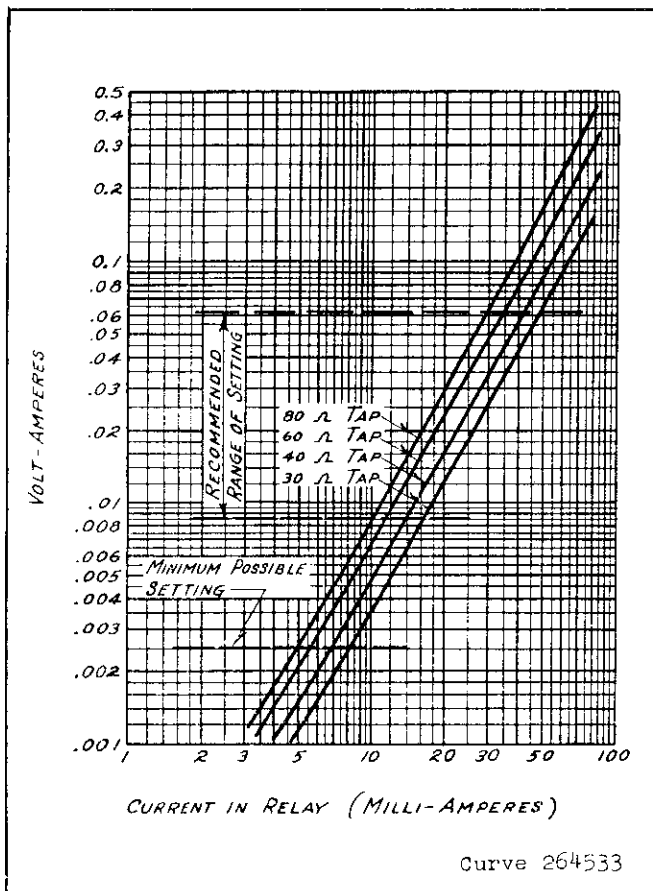
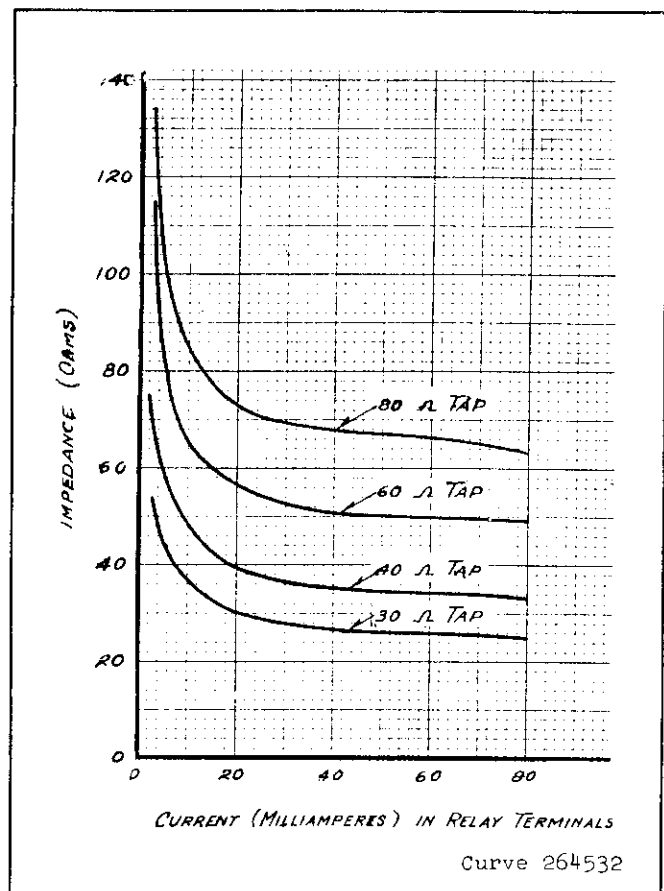

Fig. 2. Typical Voltampere Curve of the Type LC-2 Relay.
Fig. 3. Typical Impedance Curve of the Type LC-2 Relay.
The type LC-2 relay may be set to operate at an energy level ranging from .062 to .0085 volt-amperes. It may also be used to an energy level as low as .0025 with limitations which will be discussed. This range of application is shown on the typical volt-ampere curves of Fig. 2. Typical impedance curves are shown in Fig. 3. The phase angle of the relay is substantially constant (within  $3^\circ$ ) at  $22^\circ$ .
Equation (3) is used to determine the current at which the relay trips for an internal fault on the bus of magnitude,  $I_p$ . Equation (4) is used to determine the primary current necessary to trip the relay when it has been adjusted to trip at a known value of relay current. It should be noted, however, that the relay impedance is not constant, but varies with relay current as indicated in Fig. 3. Therefore, in using equation (3), it is desirable to assume a value of relay impedance equal to the impedance tap, and make a first calculation of the relay current. When this is obtained, a new value of relay impedance should be selected from Fig. 3, and a second value of relay current calculated. Usually, it will not be necessary to continue the calculation any further, as the values resulting from the second calculation will be sufficiently accurate.
This is within the recommended setting range of the relay as indicated in Fig. 2.
From Fig. 3, on the 60 ohm tap, at  $I_r = .0221$ ,  $Z_r = 55.5/22^\circ = 51.5 + j20.8$ .
There is a small residual magnetism effect in this relay element amounting to approximately .001 ampere on the 80 ohm tap. For this reason it is desirable to calibrate the relay after first applying a polarizing current to it. For example, the relay would be adjusted to trip at .010 ampere on the 80 ohm tap, and would then be momentarily subjected to a current of .250 ampere, which is 25 times minimum pickup. The minimum trip current would then be checked and the relay readjusted to trip at .010 ampere. After another momentarily applied polarization of .250 ampere the minimum trip would be rechecked. This process would be repeated back and forth until there were no change in the minimum trip current of .010 ampere after polarization. This manner of calibration is especially important at the low values of minimum trip currents, since the same residual magnetism effect of approximately .001 ampere would amount to a 20 percent change in the minimum trip setting if the relay were set for 5 milliamperes on the 80 ohm tap. It is for this reason that the lower limit of the recommended range of settings has been shown at .010 ampere for tap 80. The limit for the other taps is at the same value of voltamperes. It is possible, however, to set the relay down to an energy level of .0025 voltamperes as indicated on curve of Fig. 3. On the other taps, the residual magnetism effect is equal to